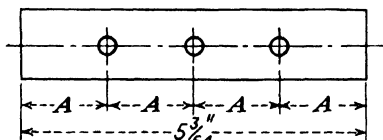

Fig. 120.
5. Holes are to be drilled on the fitting shown in Fig. 120 so that all distances marked  $A$  are equal. Draw a line  $5\frac{3}{16}$  in. long, and locate the centers of the holes. Check the results with a rule.